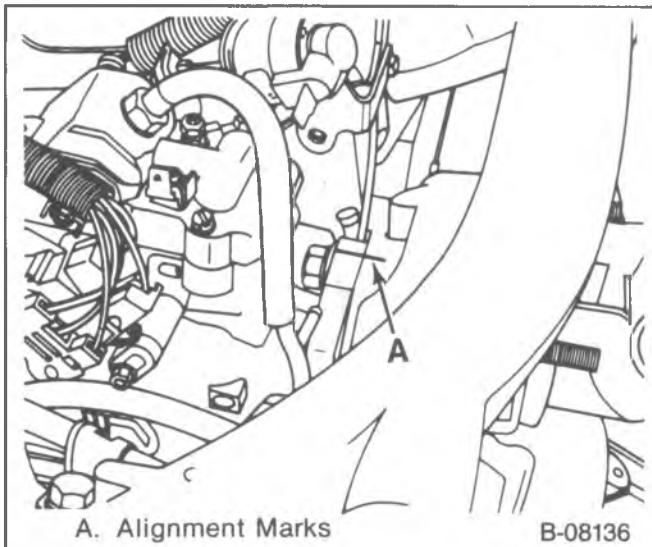

Figure 47—Injection Pump Timing Marks
Adjust (Figure 47)
- Injection pump timing. For the engine to be properly timed, the marks on the top of the engine front cover must be aligned with the marks on the injection pump flange (figure 47). The engine must be off when the timing is reset. On Federal models, align the scribe marks. On California emissions models, align the half circles.